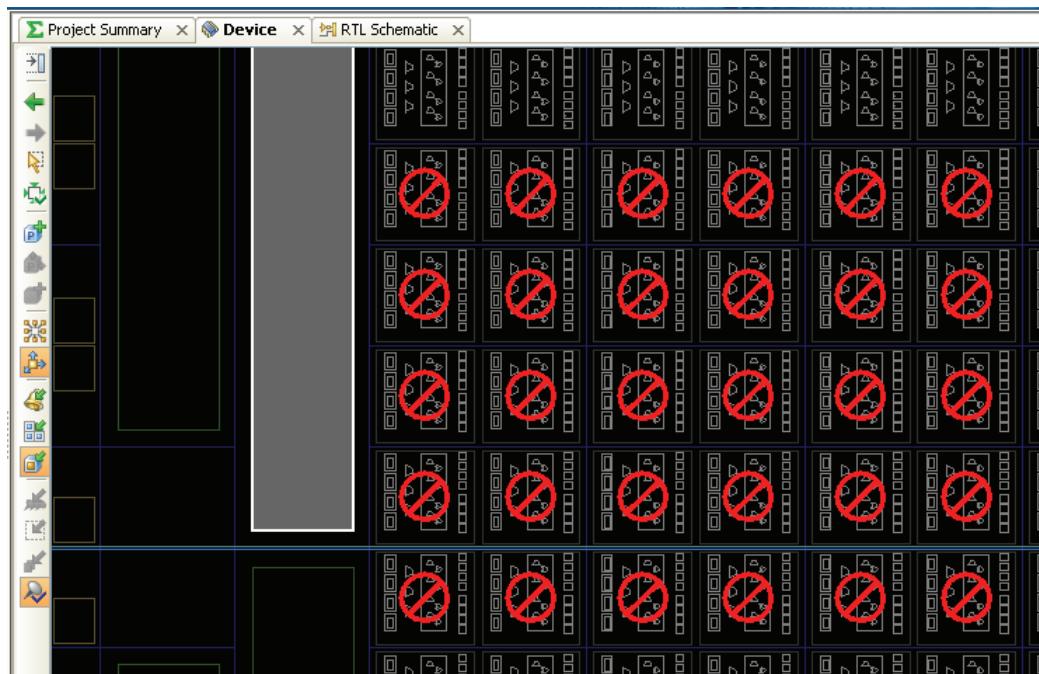

Figure 10-31: Prohibited Sites in the Device View
- Select the **Set Prohibit** command from the right-click pop-up menu. The prohibited sites display a red warning, as shown in Figure 10-31.